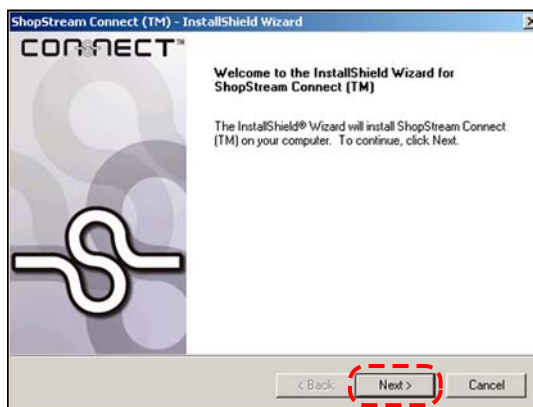

Figure C-3 Sample Welcome screen
2. When the welcome screen displays (Figure C-3), select **Next**.